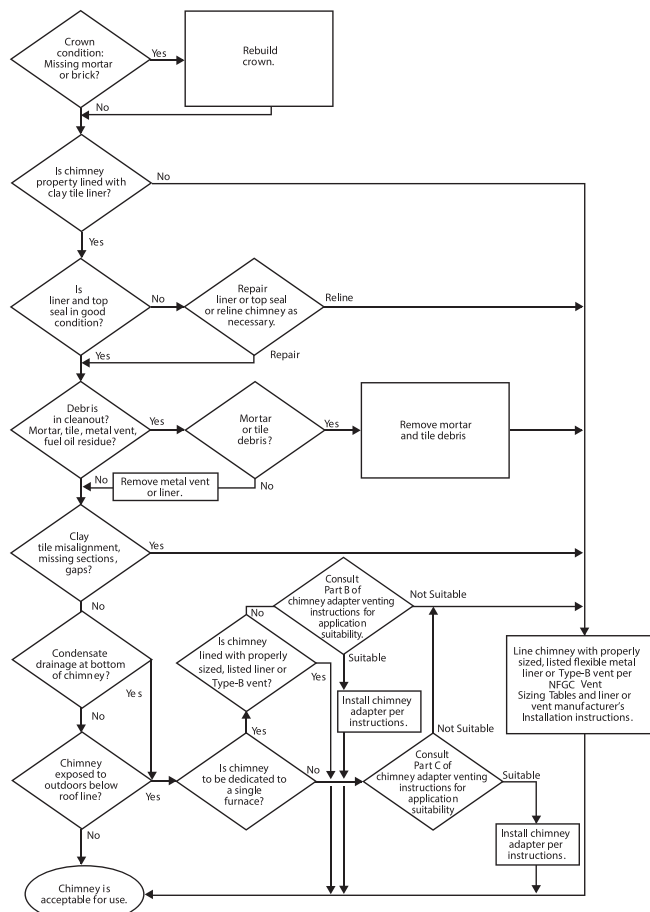

Fig. 31 – Chimney Inspection Chart
7. Do not vent this appliance into an unlined masonry chimney. (Refer to Chimney Inspection Chart, Fig. 31.)
Inspections before the sale and at the time of installation will determine the acceptability of the chimney or the need for repair and/or (re)lining. Refer to Fig. 31 to perform a chimney inspection. If the inspection of a previously used tile-lined chimney: